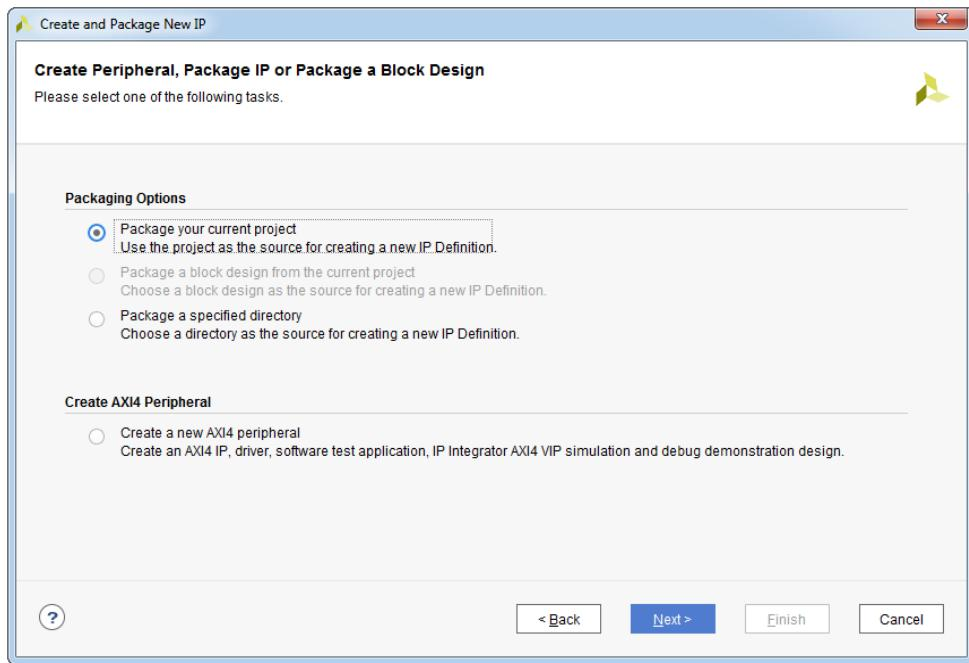

Figure 12.16: Create Peripheral, Package IP or Package a Block Design
16. In the **Create Peripheral, Package IP or Package a Block Design** dialog box, choose **Package your current project** option and click **Next**, see Figure 12.16.